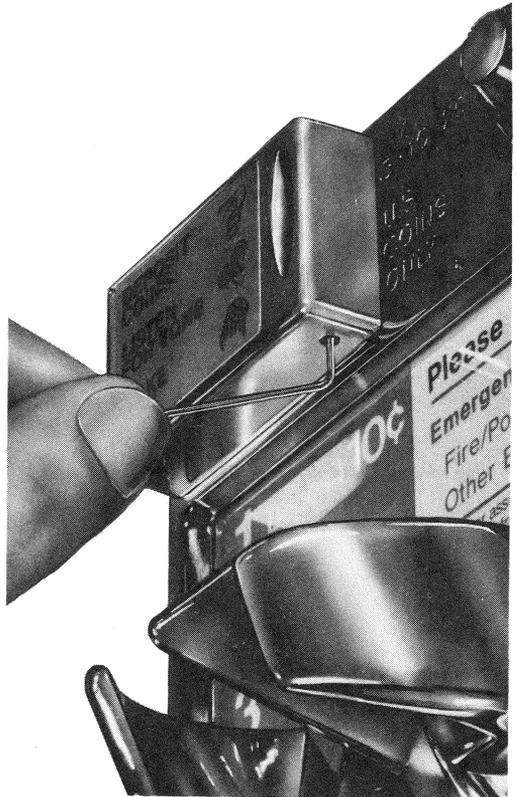

Fig. 57—Setscrew Adjustment
- (a) A No. 4-40 set screw (Fig. 57) is provided under the coin slot to prevent a U.S. dime from being caught between the magnetic coin stop assembly and faceplate. Make the following adjustments.